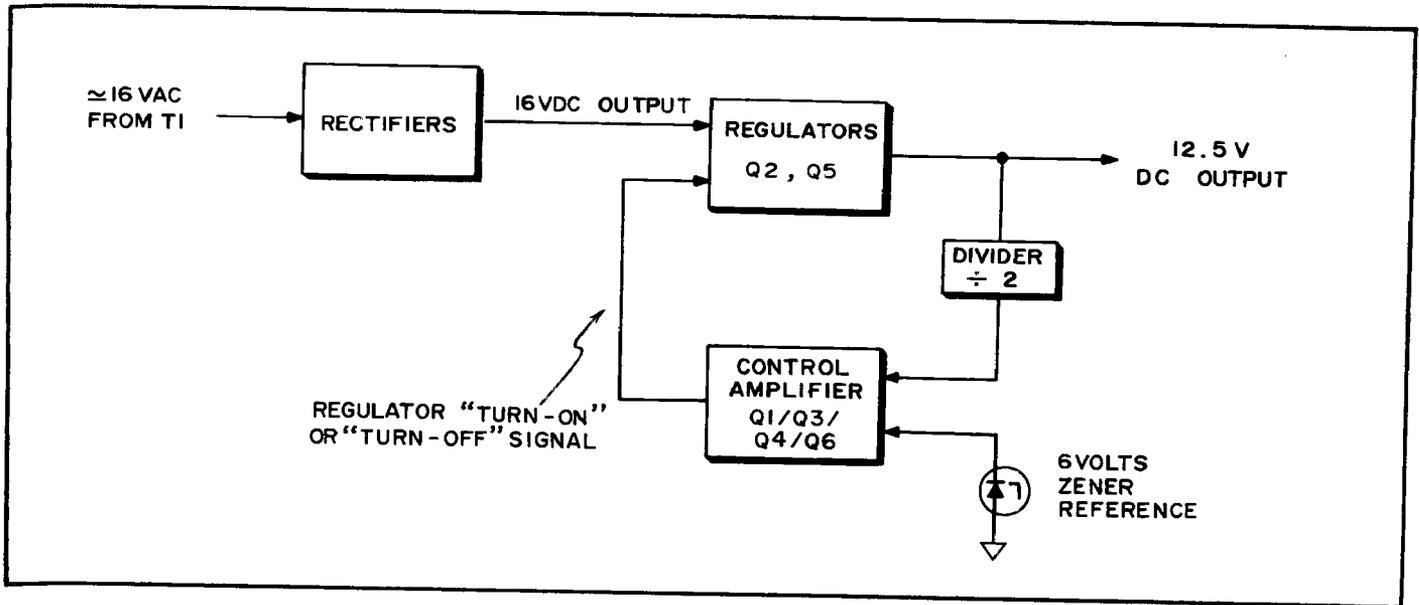

Figure 5-5. Low Voltage Power Supply
a. Suspected problems in the  $\pm 12.5$  Vdc supplies are rapidly confirmed by measuring the supply output values. Power supply faults can be further categorized into AC or DC circuit problems by checking the 16V AC level at the rectifier inputs. If this AC is not present, check transformers and connections between line input and low voltage rectifiers. If the 16V ac is present, proceed to troubleshoot the transistor regulator, transistor amplifier, and the full-wave rectifier portions of the supply. See Figure 5-5 and 5-6.